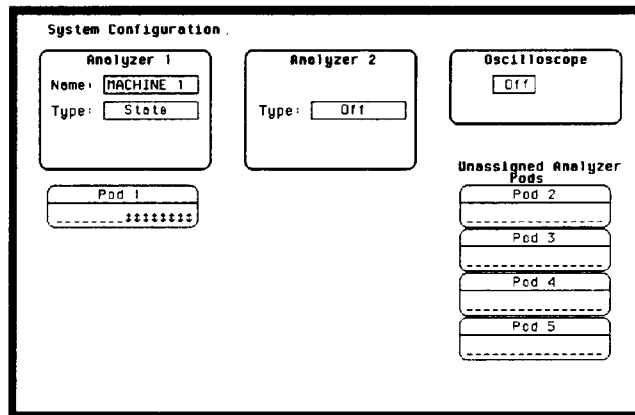

Figure 3-5. System Configuration for Data Test 1
- Assign the pod under test to **Analyzer 1** in the **System Configuration** menu as in figure 3-5. Refer to steps a through c if you are unfamiliar with menus.
3. Assign the pod under test to **Analyzer 1** in the **System Configuration** as in the previous test figure 3-5.